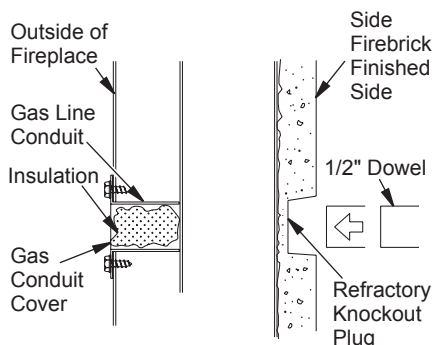

Figure 22 - Gas Line Knockout
1. Remove knockout indentation on refractory or firebrick wall located above refractory hearth floor. Knockout indentation must be firmly tapped with any solid object, such as a 1/2" dowel, until it is released. Remove fragmented portions of refractory (see Figure 22).